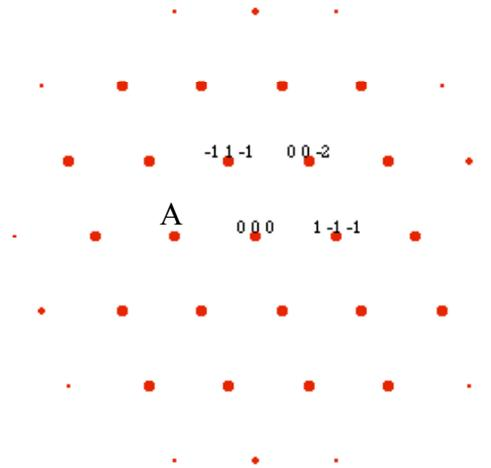

Fig. 1. Diffraction pattern from a gold crystal with the electron beam incident along the  $[110]$  direction.
The diffraction pattern in Fig. 1 is obtained for a gold crystal with the electron beam incident along the  $[110]$  direction in a TEM operated at 200 kV.
- Draw the Kikuchi lines corresponding to the 6 diffraction spots closest to 000 in Fig 1. (1p)
- What happens to the pattern in Fig 1 if the acceleration voltage is reduced to 100 kV? (1p)